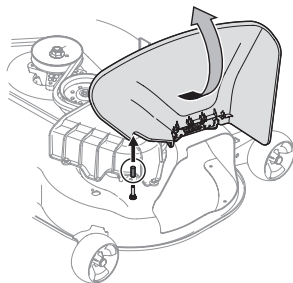

Figure 9
1. Pivot the chute deflector upward and remove the protective cover from the pin found on the deck's surface. See Figure 9.